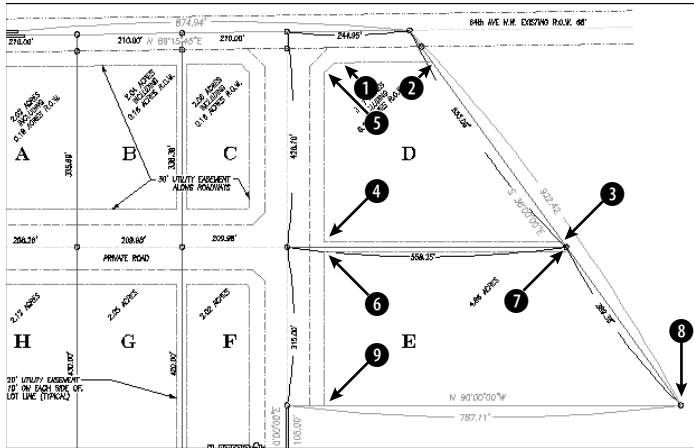

**Figure 12-9:** The AREA command can calculate the area of parcels D and E.
2. Use ZOOM Window to zoom in on the parcels of land labeled D and E, as shown in Figure 12-9. OSNAP should be on with a running object snap for the endpoint.
4. At the Specify first corner point or [Object/Add/Subtract]: prompt, right-click and choose Add to start Add mode. At the Specify first corner point or [Object/Subtract]: prompt, pick ① in Figure 12-9 by using the Endpoint running object snap. At the Specify next corner point or press ENTER for total (ADD mode): prompt, continue to pick ②, ③, ④, and ⑤. Press Enter. The command line lists the area and perimeter. (Your figures may be different if you picked different points.)
5. At the Specify first corner point or [Object/Subtract]: prompt, pick ⑥ in Figure 12-9. At the Specify next corner point or press ENTER for total (ADD mode): prompt, pick ⑦, ⑧, and ⑨. Press Enter to complete point selection. The command line reports the area and perimeter of the second area and adds the two areas together to give you the total area. Press Enter again to end the command.